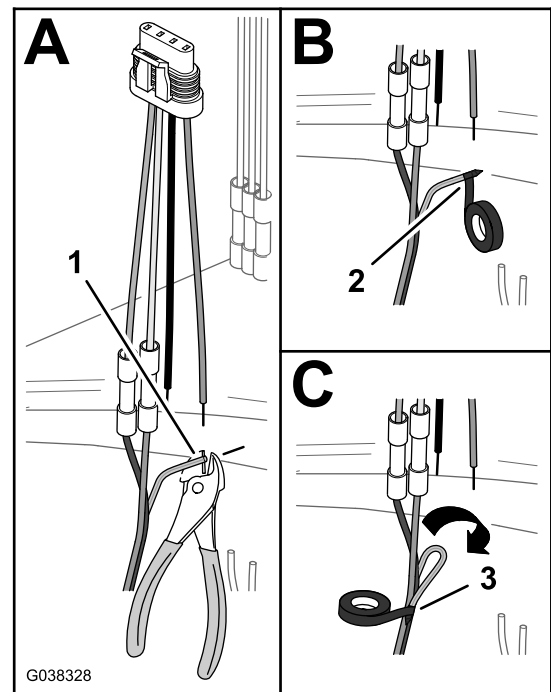

Figure 40
- B. Wrap the end of the green and yellow wire with electrical tape to seal the wire (Figure 40).
- C. Fold the green and yellow wire to the brown wire and wrap the 3 wires together with the electrical tape (Figure 40).
- A. Cut the conductors of the green and yellow wire flush with the insulation (Figure 40).